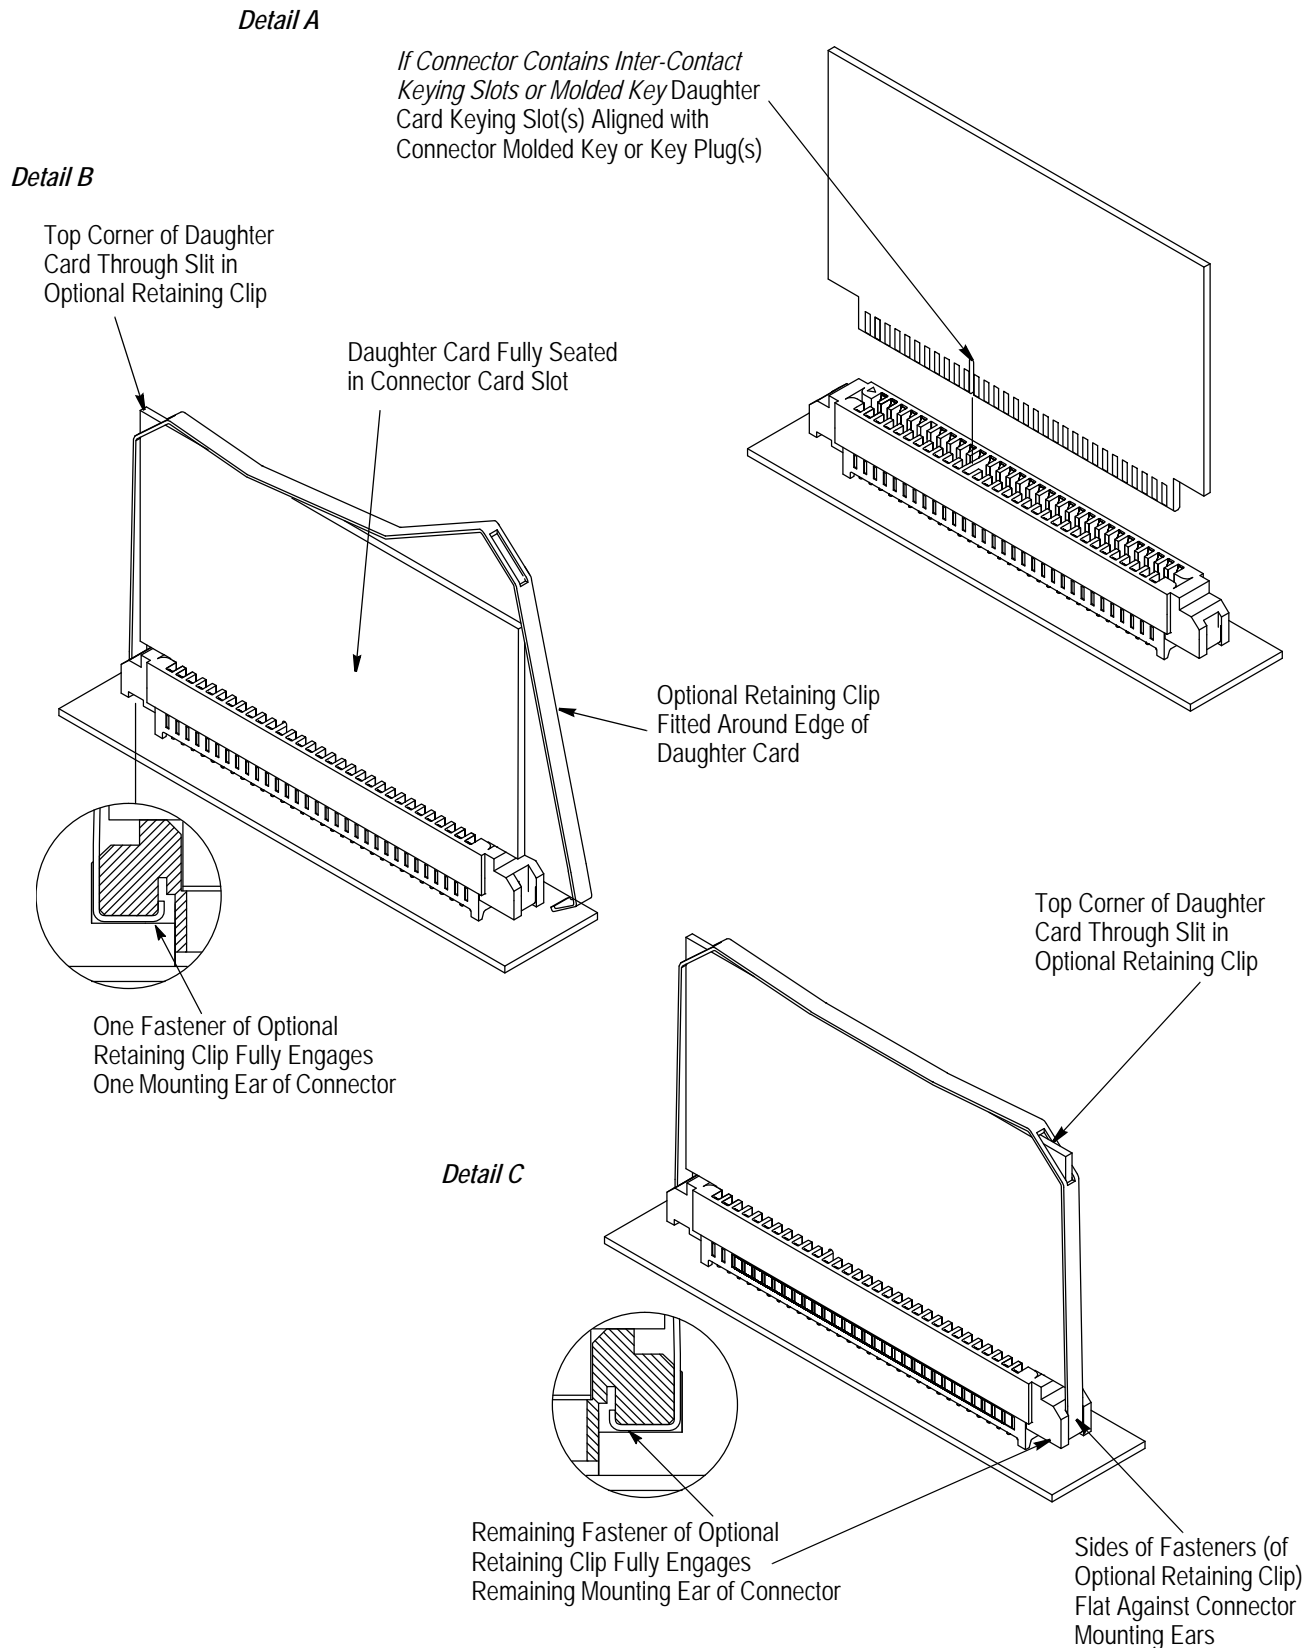

Figure 14
4. The card must be further inserted to allow the latches to move to the closed position. The latches must fully engage the notches in the daughter card. Refer to Figure 14, Detail C.
1. If the connector contains inter-contact keying slots or molded key, the keying slot of the daughter card must be aligned with the molded key or key plug(s) (if used) of the connector. Refer to Figure 14, Detail A.
1. One fastener of the retaining clip must fully engage one mounting ear of the connector with the top corner of the card through the slit in the clip. The clip must be fitted around the edge of the daughter card. Refer to Figure 14, Detail B.
2. The remaining fastener of the clip must fully engage the remaining mounting ear of the connector. The sides of the fasteners must be flat against the sides of the mounting ears. Refer to Figure 14, Detail B.